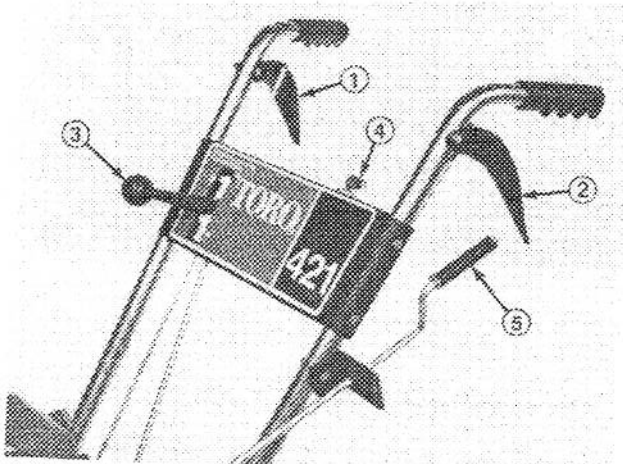

Figure 16
Auger Drive Control (Fig. 16) — Control has two positions: ENGAGE and DISENGAGE. To engage auger and impeller, compress lever against right handle grip. To disengage, release lever.
Traction Control (Fig. 16) — To achieve traction, lever must be compressed against left handle grip. To stop traction, release lever.
Speed Selector (Fig. 16) — The control has four positions: reverse, 1, 2 and 3. To change speeds, move gear shift to position desired. Lever will lock in notch at each speed selection. Use positions 1, 2, and 3 depending on snow conditions.
Ignition Switch (Fig. 16) — Switch has two positions: ON and OFF. Rotate key to ON before starting engine with the recoil starter. To stop engine, rotate key to OFF.
Discharge Chute Control (Fig. 16) — Rotate discharge chute control clockwise to move discharge chute to the left and counterclockwise to move chute to the right.
4. Rotate ignition key to ON (Fig. 16).
1. Release traction and auger drive control (Fig. 16).
2. Move throttle to slow and rotate ignition key to OFF (Fig. 16).